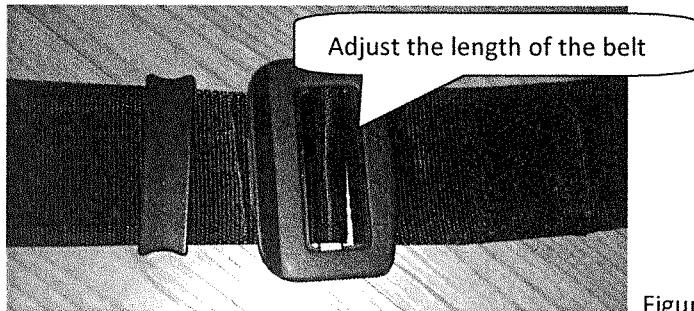

Figure 6.3.3
- Adjust the length of lap belt to conform passenger. (Refer to figure 6.3.3).
- Adjust the length of shoulder belt to comfort passenger as figure 6.3.3.